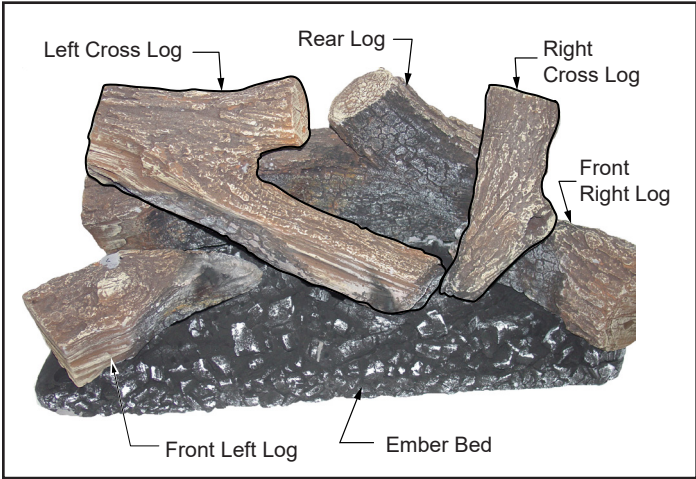

Figure 3.25 - Completed Installation
4. Install the left cross log by engaging the hole on the bottom with the pin on the left side of the rear log. Set front side of cross log on notch in ember bed, Figure 3.25.
5. Install the right cross log by engaging the hole on the bottom with the pin on the right side of the rear log. Set front edge of cross log on ember bed, Figure 3.25.